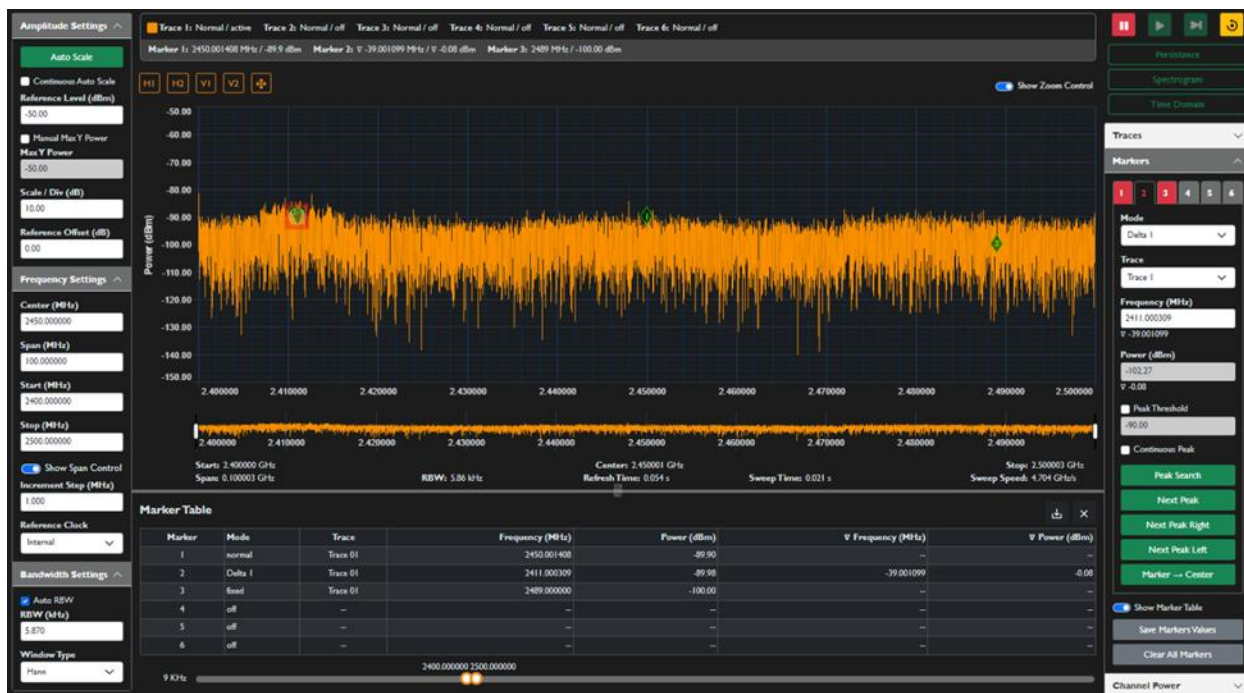

Figure 13: Marker table below the Spectral Plot
10. Optionally, click the **Show Marker Table** switch to display a table listing all active markers (with their corresponding marker mode, trace assignment, frequency, power level, frequency delta and power delta) below the Spectral Plot, as shown in Figure 13. The marker table can be closed by clicking the Show Marker Table switch again or the Close button  above the marker table.